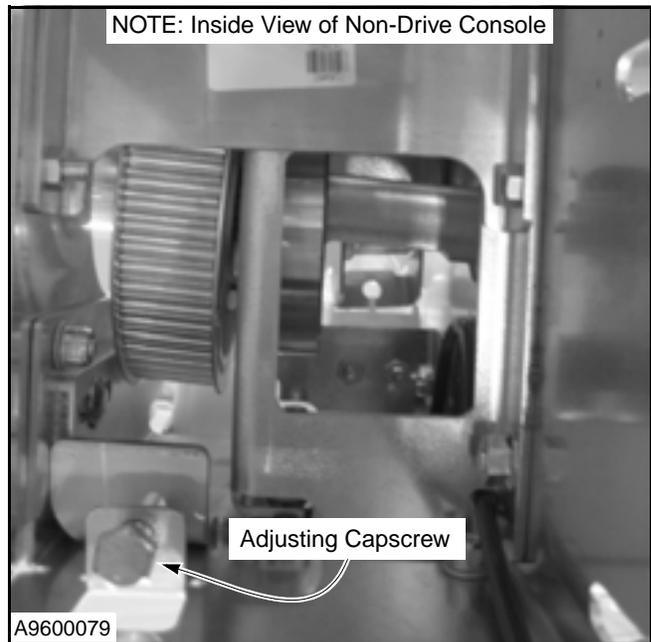

Figure 37
4. Turn cap screw to adjust guide pulley trolley. (See Figure 37.)